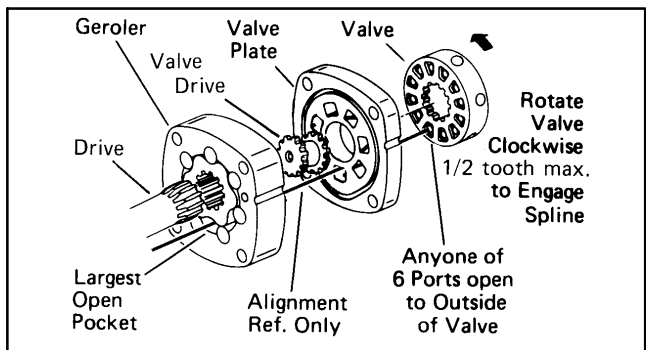

Figure 82
34. Align the notch on the outside of the valve plate with the notch on the Geroter as shown in Fig. 82.